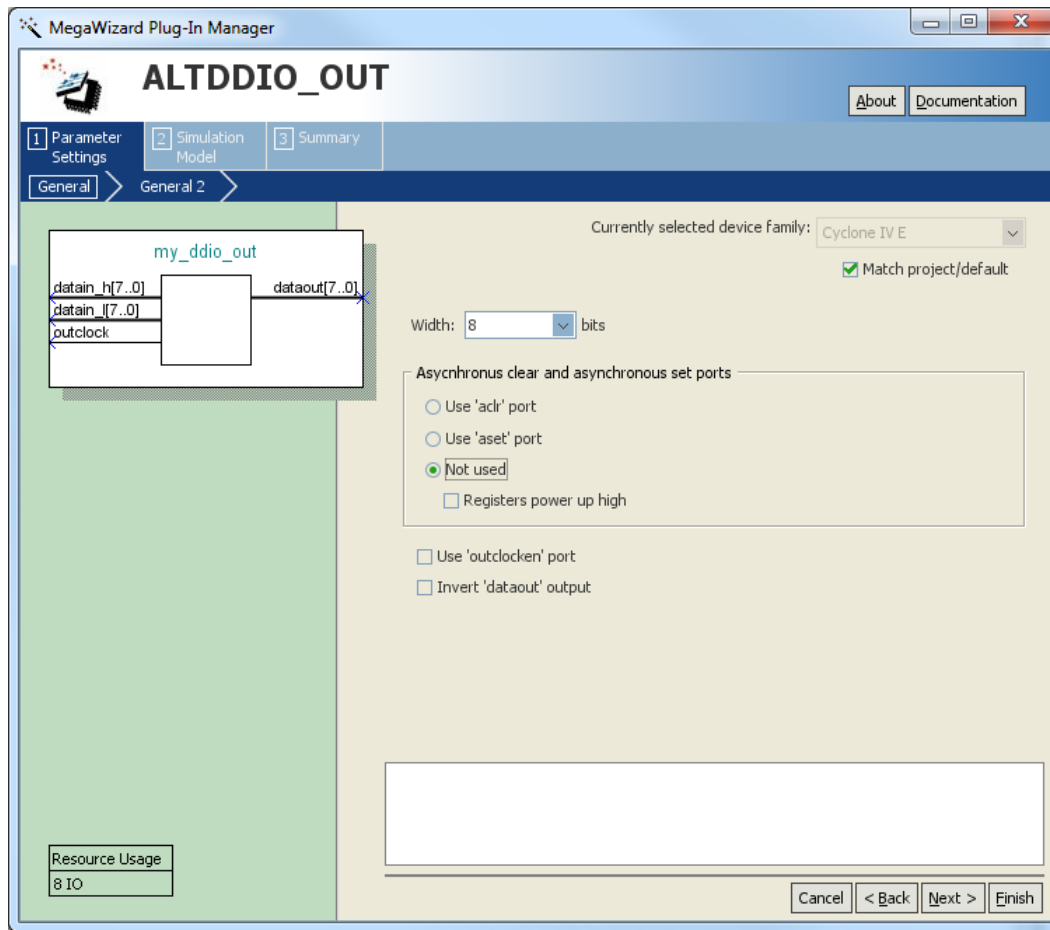

Figure 17. Settings for the DDIO_OUT register.
3. In the window in Figure 17, set the **width** to **1** bit. Also select **Not used** for the **asynchronous clear** and **asynchronous set ports** options.